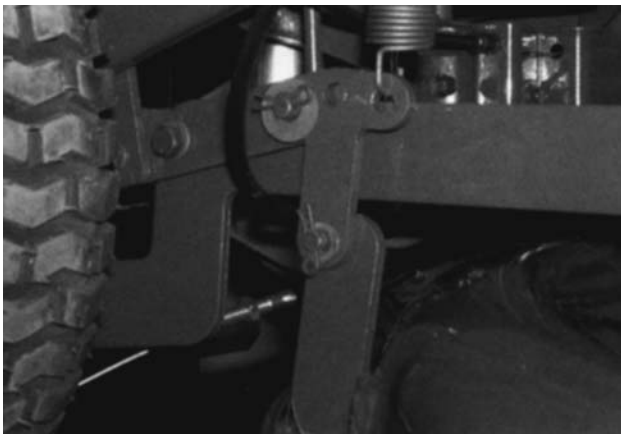

Figure 8-1.
8. Make certain the lower "T" links are mounted to the rider correctly. See Figure 8-1.